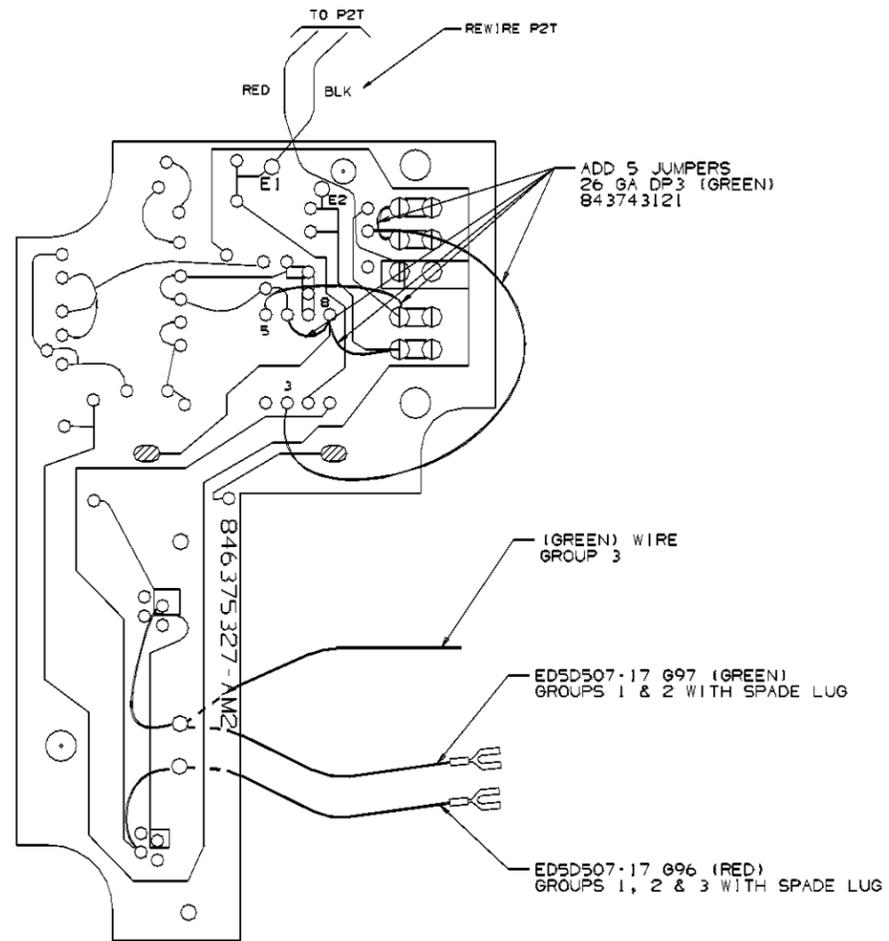
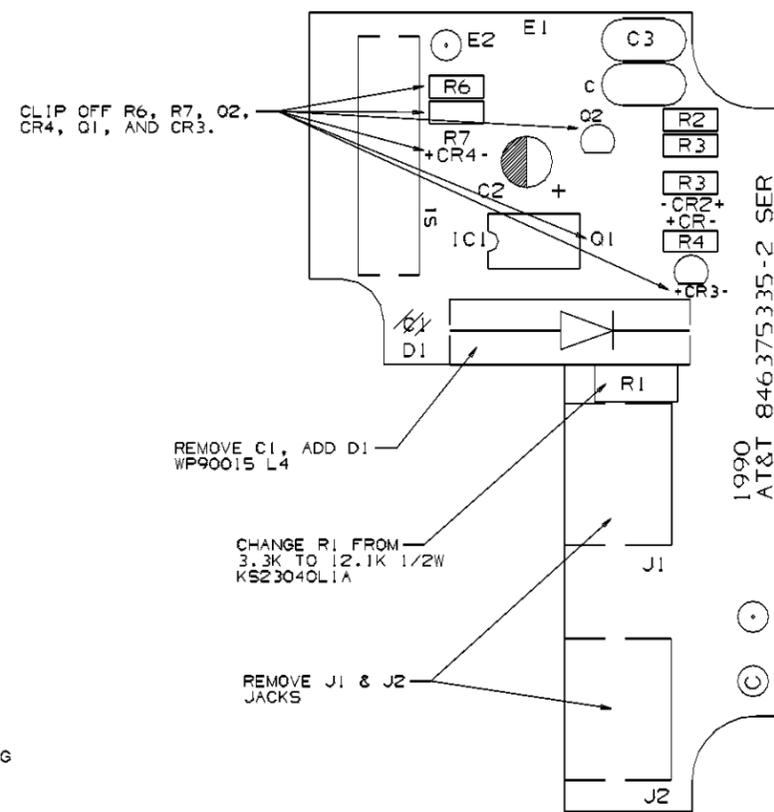

FIG. 3
FIG. 4
MANUFACTUREING NOTE 13 ADDED. STOCKLIST ITEM 1050 QTY READ 2, ITEM 1070 ADDED. FIG 3 AND FIG 4 ADDED.
- A. REMOVE MODULAR PHONE JACKS J1 & J2, SHOWN IN FIG 4.
- B. REMOVE C1 CAPACITOR AND MARK OUT THE C1 DESIGNATION, SHOWN IN FIG 4.
- C. ADD WP90015-L4 DIODE (406590869) TO POINTS WHERE C1 WAS CONNECTED AND STAMP D1 DESIGNATION, SHOWN IN FIG 4.
- D. REMOVE 3.3K OHM RESISTOR R1, REPLACING IT WITH A 12.1K OHM, 1/2 WATT KS23040,L1A RESISTOR, AS SHOWN IN FIG 4.
- E. CLIP OFF, AND DISCARD, R6,R7,Q1,Q2,CR3 AND CR4 COMPONENTS, AS SHOWN IN FIG 4.
- F. ADD FIVE (5) 26GA DP3 GREEN WIRES, SHOWN IN FIG 3.
- G. ON GROUP 3 ONLY, ADD ONE ED5D507-17, GROUP 96 AND ONE 16-INCH LONG GREEN WIRE, AS INDICATED IN FIG 3. SOLDER TO PWB.
- H. ON GROUPS 1 AND 2, ADD ED5D507-17, GROUP 96 AND 97 (16-INCH WIRE PAIR, 26GA, RED AND GREEN) AS INDICATED IN FIG 3. SOLDER TO PWB.
- I. DISCONNECT BLACK WIRE AT LOCATION E2 AND RECONNECT TO LOCATION E1, SHOWN IN FIG 3.
- J. DISCONNECT RED WIRE AT LOCATION E1 AND RECONNECT TO PIN 3 OF THE SWITCH, SHOWN IN FIG 3.